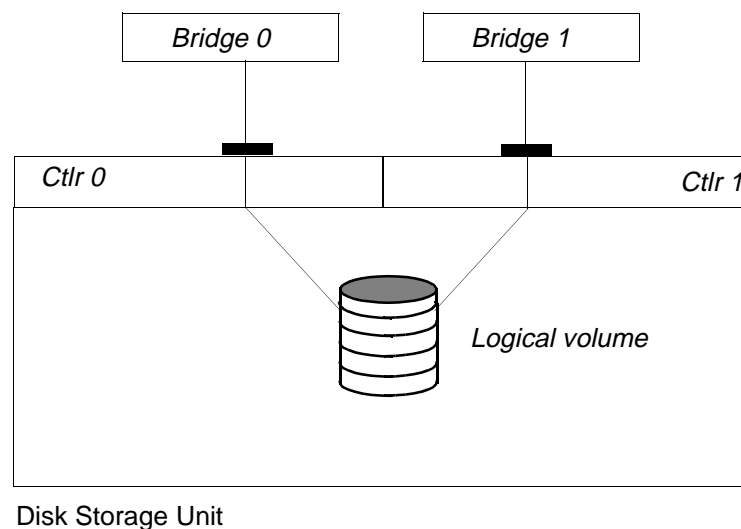

Figure 5-1.
- A single logical volume can be connected to more than one port. E.g., in Figure 5-1, the disk resource is connected to Port 0 and Port 1, and has a path through both fibre channel bridges *Bridge 0* and *Bridge 1*.